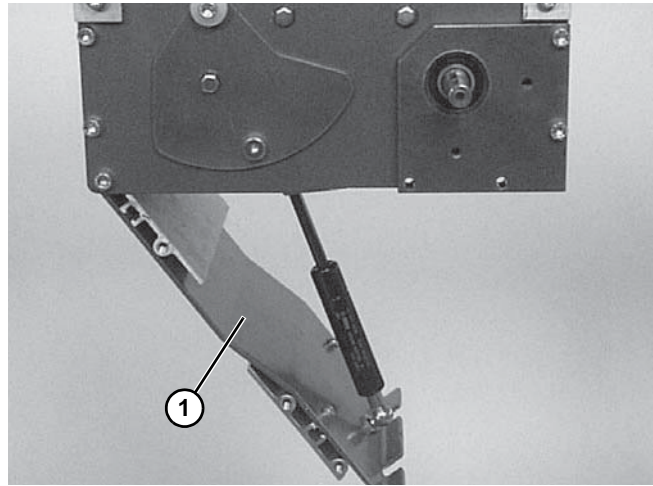

**Figure 72**
- Place loop of belt (**Figure 72, item 1**) into the drive module between top idler pulleys (**Figure 72, item 2**).
- Place grooved idler pulley (**Figure 72, item 3**) into the belt loop and install it in the drive module. Refer to “Belt Removal from Drive Module” on page 33 and reverse step 3.
- Place drive pulley (**Figure 72, item 4**) into the belt loop and install it in the drive module. Refer to “Belt Removal from Drive Module” on page 33 and reverse steps 1 and 2. Tighten screws (**Figure 50, item 1**) to 60 in-lb (6.8 Nm).
- Install the drive module onto the conveyor and attach clamps (**Figure 72, item 5**) in each corner. Tighten screws to 60 in-lb (6.8 Nm).